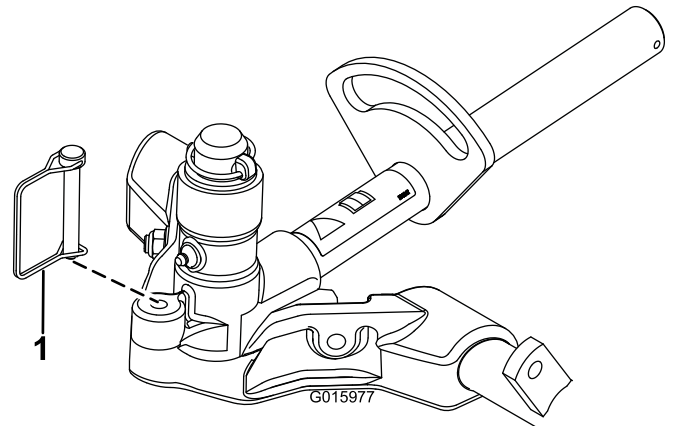

**Figure 15**
- 6. On 27 inch cutting units only, increase the steering on the rear cutting units by removing the (2) pivot spacers, hex socket screws and flange lock nuts (Figure 15) from the rear (#2 and #3) cutting unit carrier frames (Figure 12).